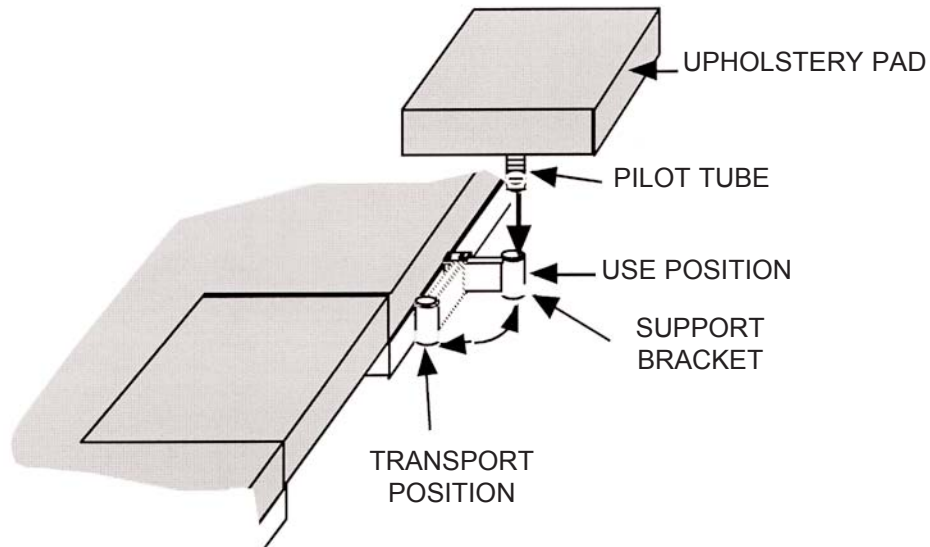

Figure 11
- 1 Rotate the Support Bracket to the Use Position (Straight out of the bed side) (See Figure 11)